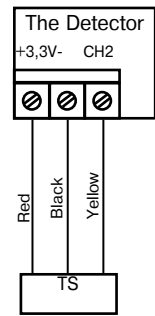

Figure 3 – The TS Hooking up to the Detector
6.2 If it is necessary to log the Detector in double-channel mode, switch TS to the Detector as shown in Figure 3 or short-circuit the terminals of the Detector «minus» and «CH 2». For the single-channel mode neither switching on, no short-circuit is required.
Install the PCB and if it is necessary, hook up TS to the terminals in accordance with Figure 3. Put the cover on it's place.